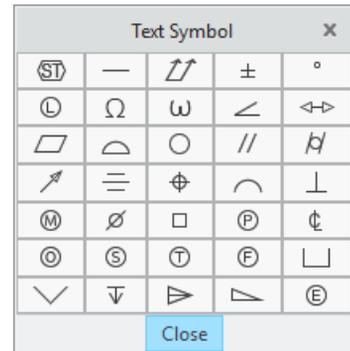

Figure 3-17 The Text Symbol palette
4. Enter the text in the **Text** edit box. The length of the text can be up to 79 characters. As you enter the text, the text will be displayed dynamically in the graphics window. To insert symbols with the text, choose the button next to the **Text** edit box; the **Text Symbol** palette will be displayed, as shown in Figure 3-17. Next, choose the desired symbol from the palette to insert it with the text. You can choose the desired font of the text from the **Font** drop-down list. The aspect ratio, slant angle, and spacing of the text can be controlled by using the slider bars available in the **Options** area. You can also modify the position of the text using the options available in the **Alignment** area of the dialog box.